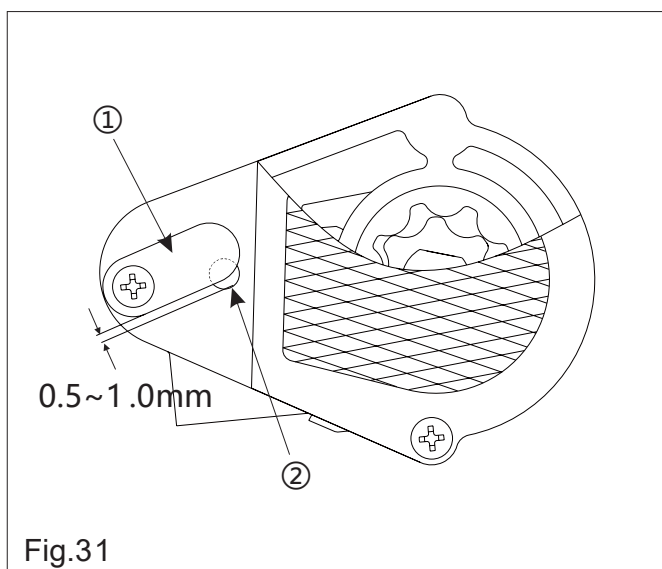

Fig.31
25. Adjust the oil pump (Fig.31)